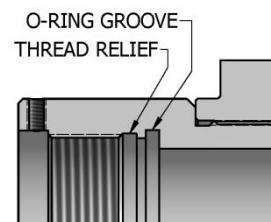
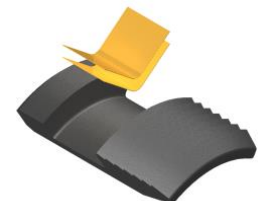

Fig. 2
Fig. 3
**CAUTION5:** To ensure tool operates properly, install o-rings in o-ring grooves **NOT** thread reliefs (Fig. 2).
- J-1) Clamp inner mandrel (2) in vise.
- J-1.1.1) Install upper slips (8), releasing slip (7), and slip springs (13) into spring cage (5).
**NOTE5:** Install two (2ea) springs per slip (Fig. 3).
- J-1.1.2) Wedge releasing slip (7) and upper slips (8) outwards. Install spring cage assembly onto inner mandrel (2). Remove wedges.
- J-1.2) **For P/N 32351 only**, screw cap screws (26) into spring cage (5).
- J-1.3) Install compression spring (4) onto inner mandrel (2).
- J-1.4) Screw top sub (1) onto inner mandrel (2).
- J-1.5) Screw spring cage cap (6) into spring cage (5).
**CAUTION4:** Compression spring (4) will be compressed with spring tension against spring cage assembly.
- J-2) Remove inner mandrel (2) from vise. Clamp top sub (1) in vise.
- J-2.1) Install cone (9) onto inner mandrel (2).